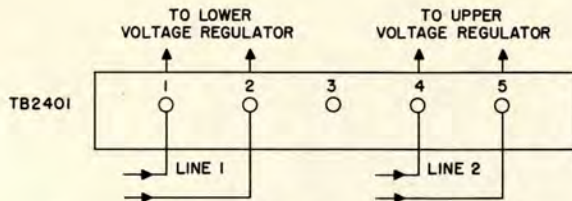
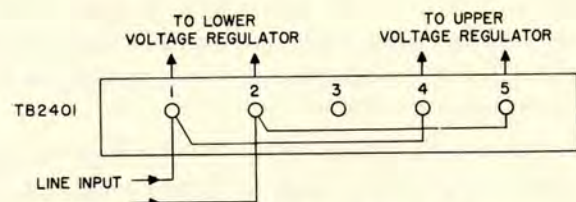

Figure 3-8. Voltage Regulator Assembly, Input Terminal Board Connections for Two Power Sources
Figure 3-9.—Voltage Regulator Assembly, Input Terminal Board Connections for Single Power Source
c. VOLTAGE REGULATOR ASSEMBLY POWER AND GROUND CONNECTIONS. — The Voltage Regulator Assembly should be supplied with an input line voltage of 195 to 255 volts ac, single phase, 50 to 65 cycles per second. Either two separate power sources can be used, in which case each power source supplies one voltage regulator, or a single power source can be used to supply both voltage regulators. Where two power sources are used each must be capable of supplying a load of 30 amperes and are connected to the input terminal board TB2401 of the Voltage Regulator Assembly as shown in figure 3-8. Where one power source is used it must be capable of supplying a load of 60 amperes and can be wired to the input terminal board as shown in figure 3-9. As indicated in figures 3-8 and 3-9, the lower voltage regulator power input is obtained from terminals 1 and 2 of TB2401 and the upper voltage regulator power input from terminals 4 and 5 of TB2401.